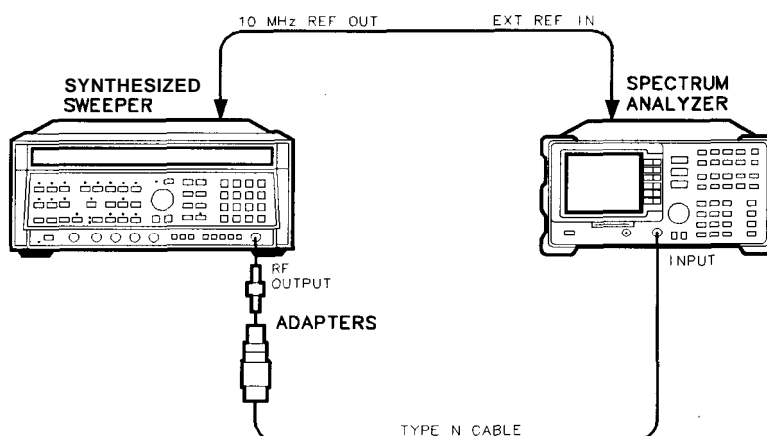

Figure 8-1. Frequency Readout Accuracy Test Setup
8. Connect the equipment as shown in Figure 8-1. Connect the HP 8340A/B 10MHz REF OUT connector to the spectrum analyzer's EXT REF IN connector with a cable.